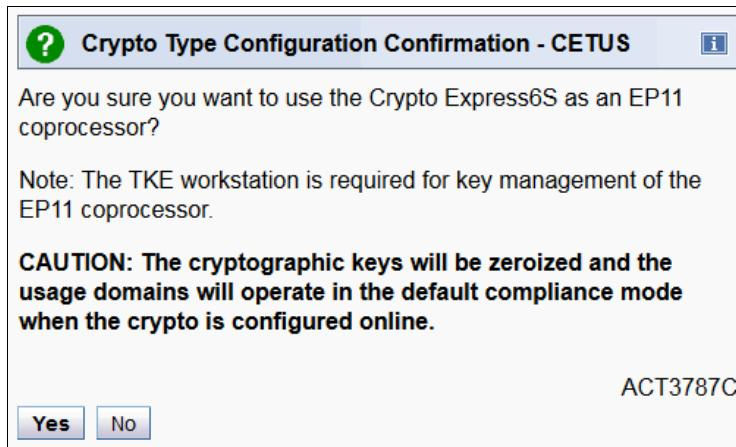

Figure 10-18 Crypto Type Configuration Confirmation for EP11 Coprocessor
5. Confirm your selection by clicking **Yes** (Figure 10-18).